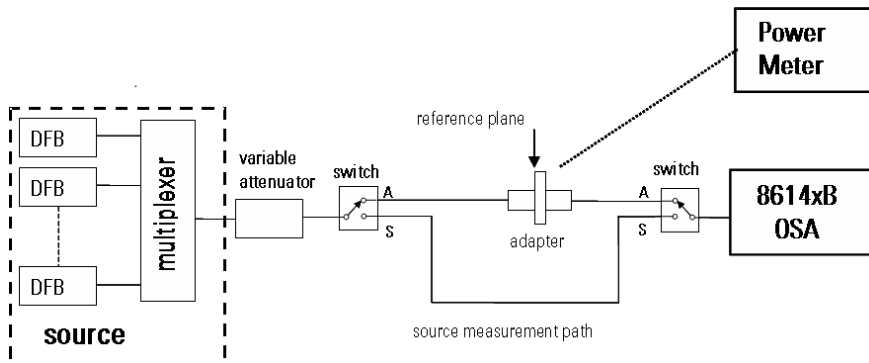

Figure 5 Source Path Measurement
- 1 Connect the source output and receiver input fibers as shown in Figure 5.
- 2 Set switches to the source path (S) positions.
- 6 Set the switches to the amplifier path (A) positions.
- 9 Connect the power meter to the adapter at the reference plane as shown in Figure 5. Set the power meter wavelength parameter to the source mean wavelength value.